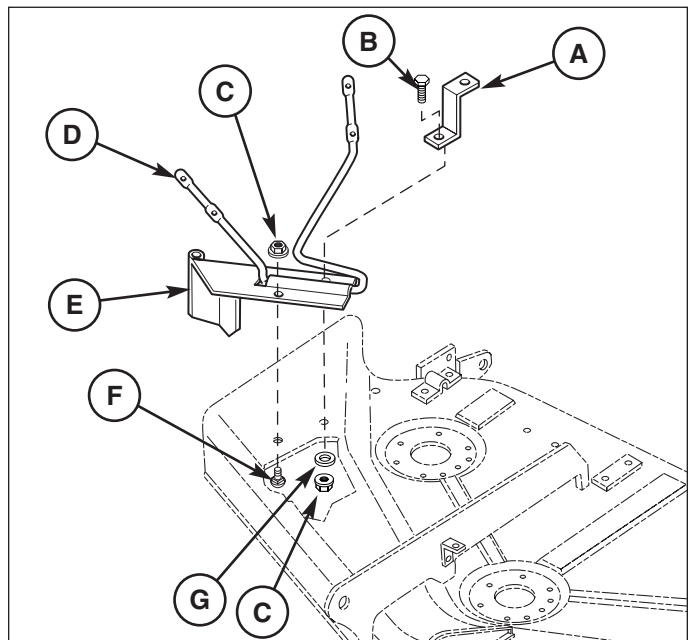

Figure 5. Install Deflector Hinge
2. Remove and discard the plastic plugs from the deck at the locations used by bolts (F & B, Figure 5).
3. Slide the deflector rod (D) through the pivot bracket (E).
4. Secure the front of the pivot bracket with a 5/16-18 x 3/4" carriage bolt (F) and flange whizlock nut (C).
5. Secure the back of the pivot bracket (E) and belt cover support (A) with a 5/16-18 x 1 capscrow (B), 5/16 washer (G), and flange whizlock nut (C).